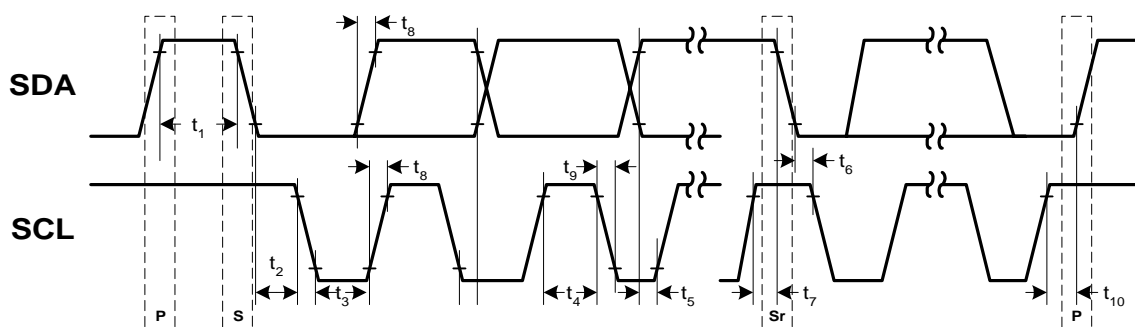

Figure 1. Detail Timing Diagram
3. After acknowledged the Instruction Byte, the last byte in Write mode is the Data Byte. Data is transmitted over the serial bus in sequences of nine clock pulses (eight data bits followed by an "Acknowledge" bit). The transitions on the SDA line must occur during the low period of SCL and remain stable during the high period of SCL, Figure 1.